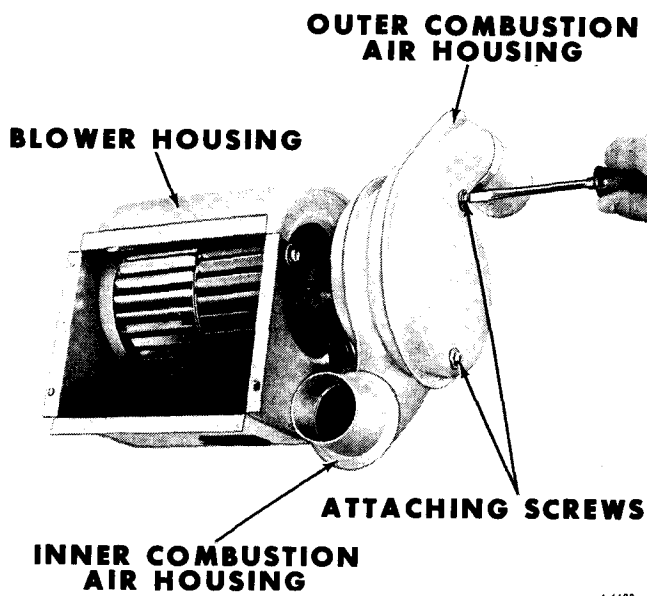
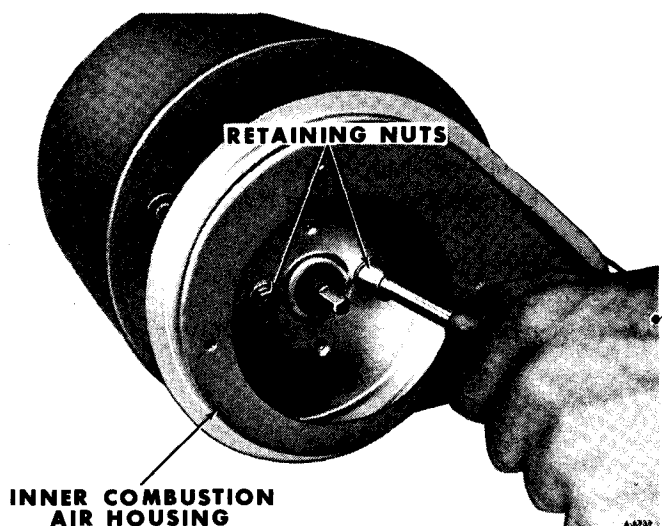

Figure 24—Removing Outer Combustion Air Housing
Figure 26—Removing Inner Combustion Air Housing
attaching screws (figure 24). Remove housing and metal plate, located between inner and outer housing.
6. Remove two retaining nuts holding inner combustion air housing to blower motor (figure 26). Remove housing.
4. Install the inner combustion air housing to the blower motor (figure 26). Be sure inner housing is aligned as shown in figure 24 with blower housing.
6. Position metal plate between inner and outer combustion air housings. Install outer combustion air housing (figure 24).